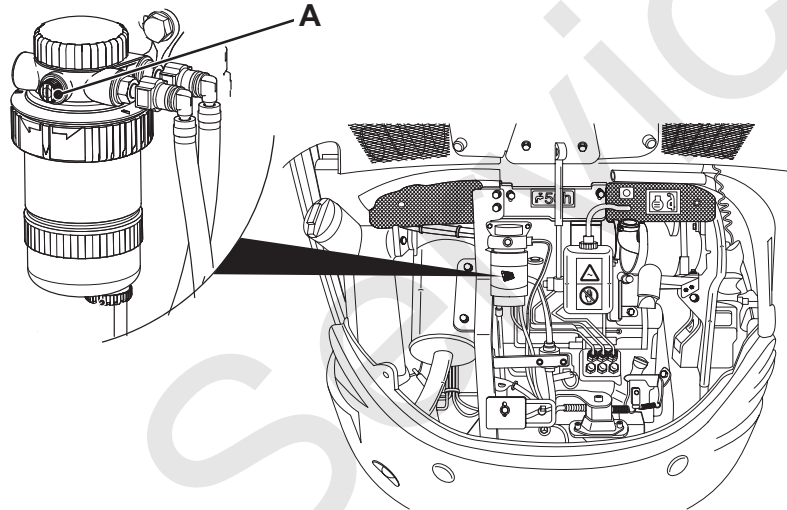

Fig 93.
- 2 To bleed air from the filter, slacken bleed screw **A**. Switch ignition to ON position (This will start the electric fuel pump). → Fig 93. \(□ 239\).